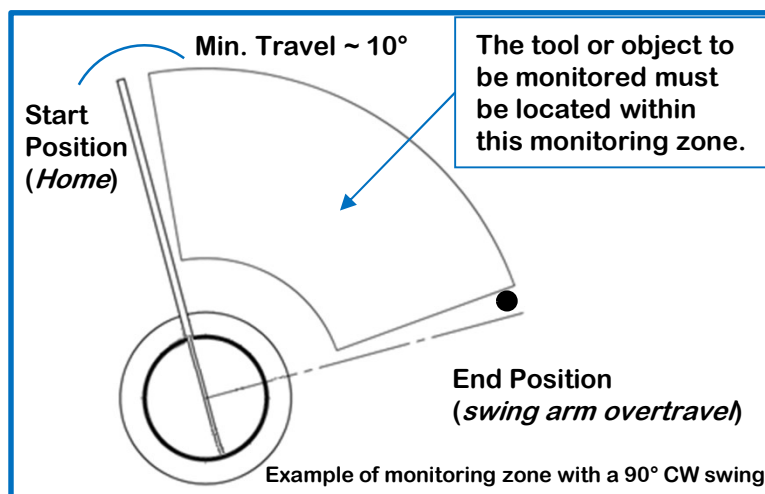

Figure 11: Needle Detection Range
- For proper monitoring, the swing arm should be allowed to travel freely by approx. 10° before coming in contact with the tool/object being monitored, see Figure 11. With a broken tool or a missing object, the swing arm will travel to the end of the swing angle